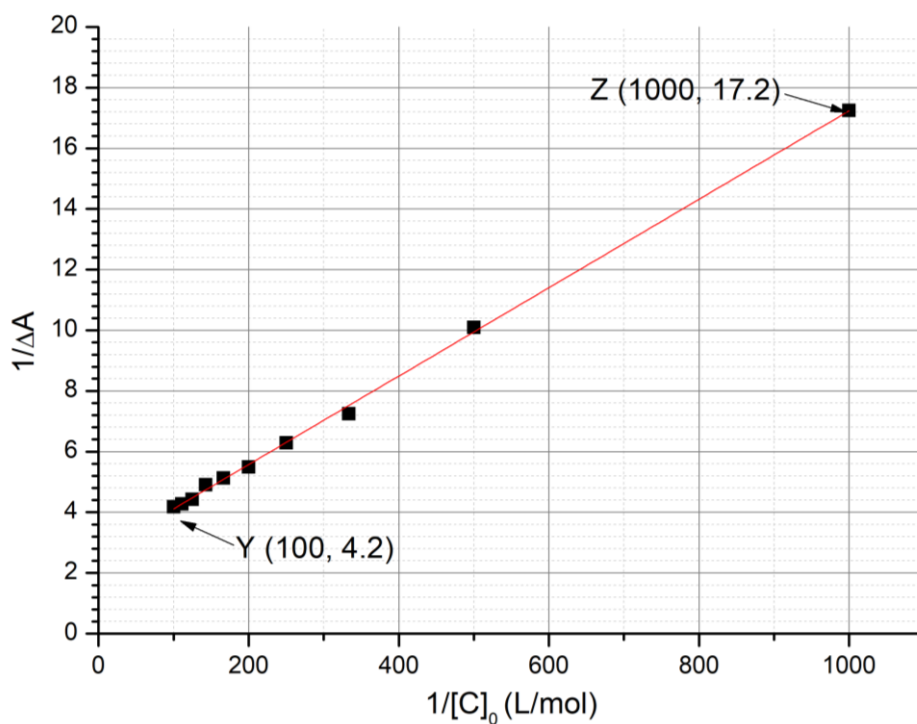

Fig. 3 – Evolution of  $1/\Delta A$  as a function of  $1/[C]_0$ .
6. **Determine**  $K_t$  using the following experimental curve (Fig. 3).